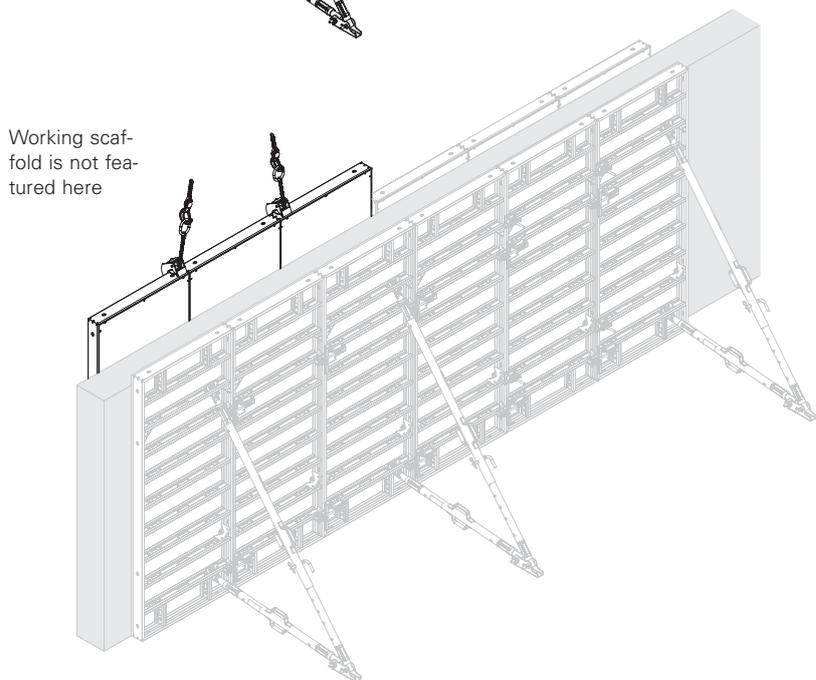

Fig. A2.07
1. Mount Lifting Hooks and attach to crane. (Fig. A2.07)